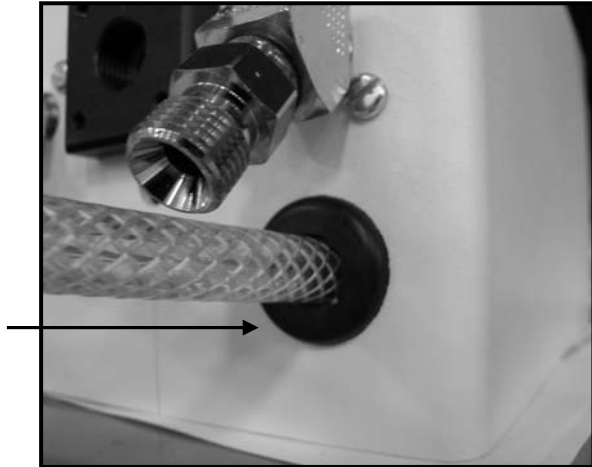

Fig. 5
4. Gently feed new hose through grommet. (Fig. 5)